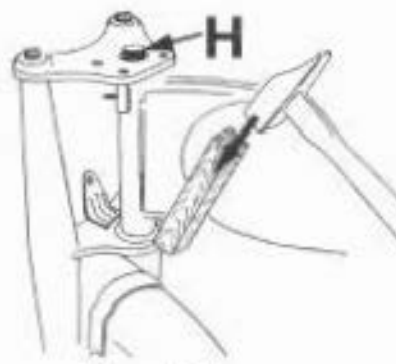

Fig. 45-2
- 6) The fork assembly can now be removed, see Fig. 45-2, using a hardwood block and a hammer. This will spring the lower plate off the bottom of fork stem and by pulling the fork assembly forward and up, it will lift off the threaded upper part of the fork stem "H" Fig. 45-2.